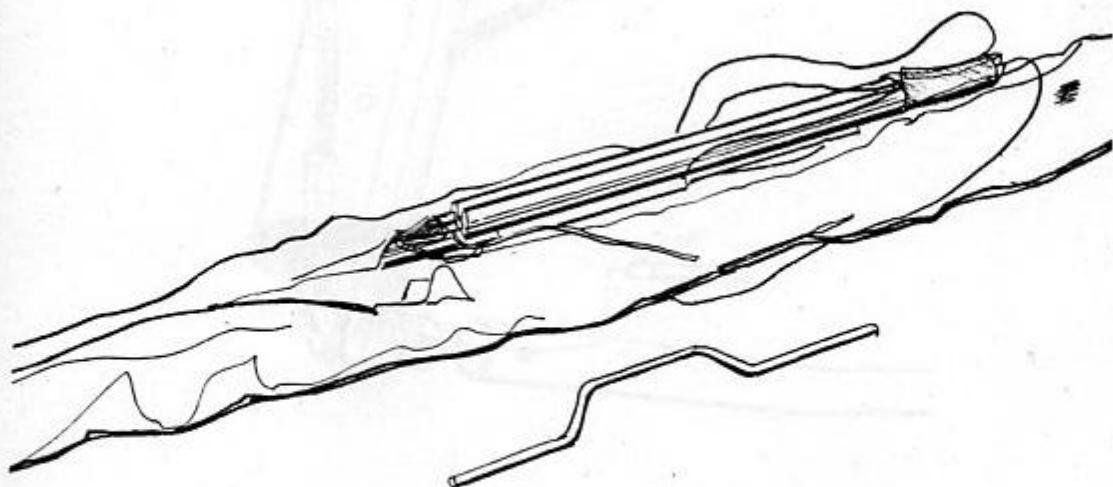

Fig. 3.2.4.
3. Turn the glider so that the down tubes packed into the safety bag are on top. Remove the safety bag. Spread the downtubes. Install the speedbar so that off-set of the speedbar is directed forward and upwards to the flight direction. Fix the speedbar using the wing nut and the safety ring (Fig. 3.2.4, 3.2.5, 3.2.6, 3.2.7, 3.2.8).